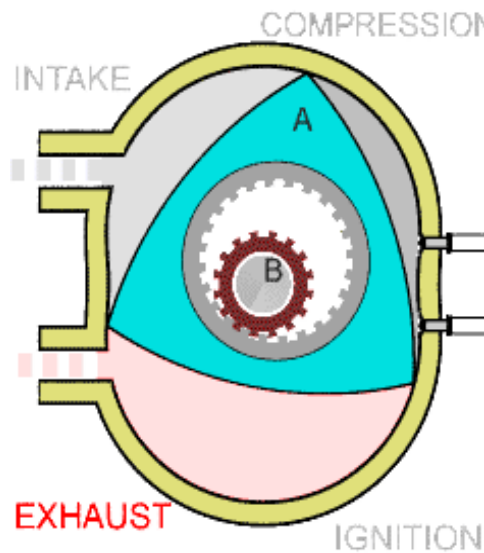

Figure 5: IllustrateWankel Engine.
5. **Wankel engine:** A Wankel engine, also referred to as a rotary engine, compresses the fuel-air mixture without the use of pistons. Although this setup is smooth and has a high power-to-weight ratio, it is less fuel-efficient and can have sealing issues. The engine shown in the following Figure 5 is a Wankel Engine [4], [5].